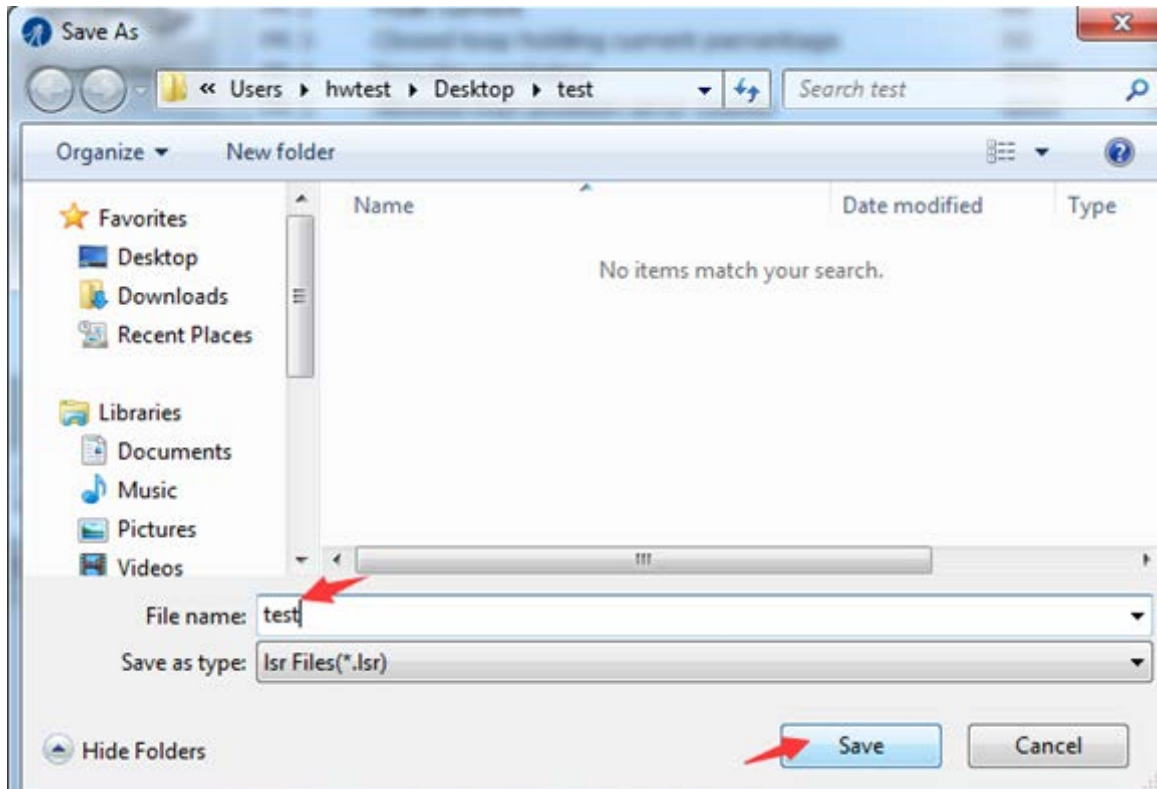

Figure 22: save configuration file
- Click **Project-> Save As** menu item. The following screen on Figure 22 will be displayed: